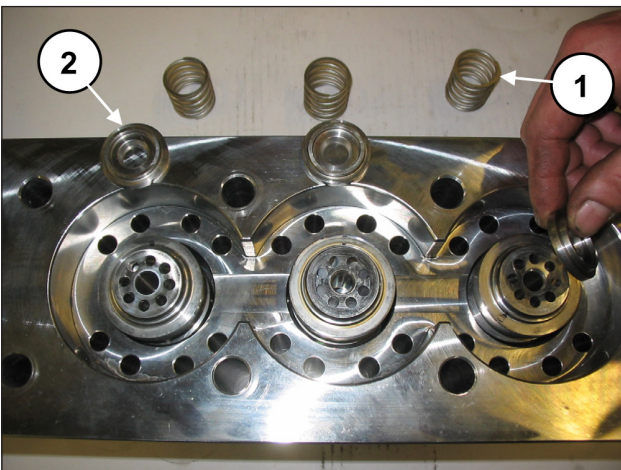

Fig. 114
During disassembly of the liners, take care not to disperse the valve springs and the flat valves (pos. ① and ②, Fig. 114) which, being only laid down, could fall.